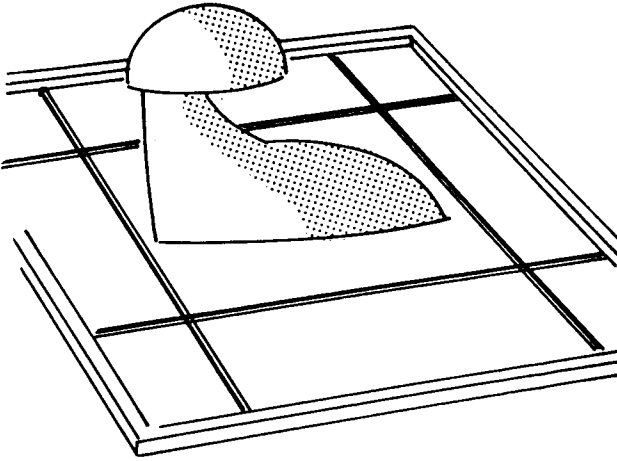

FIGURE 10. PLACING REINFORCING ROD.
The finished slab is quite strong because its three parts are cast at the same time (see Figure 10). The method described here can be applied to other water-seal slab designs.
9. Press in 4 pieces of 6mm (1/4") steel reinforcing rod. See Figure 10.